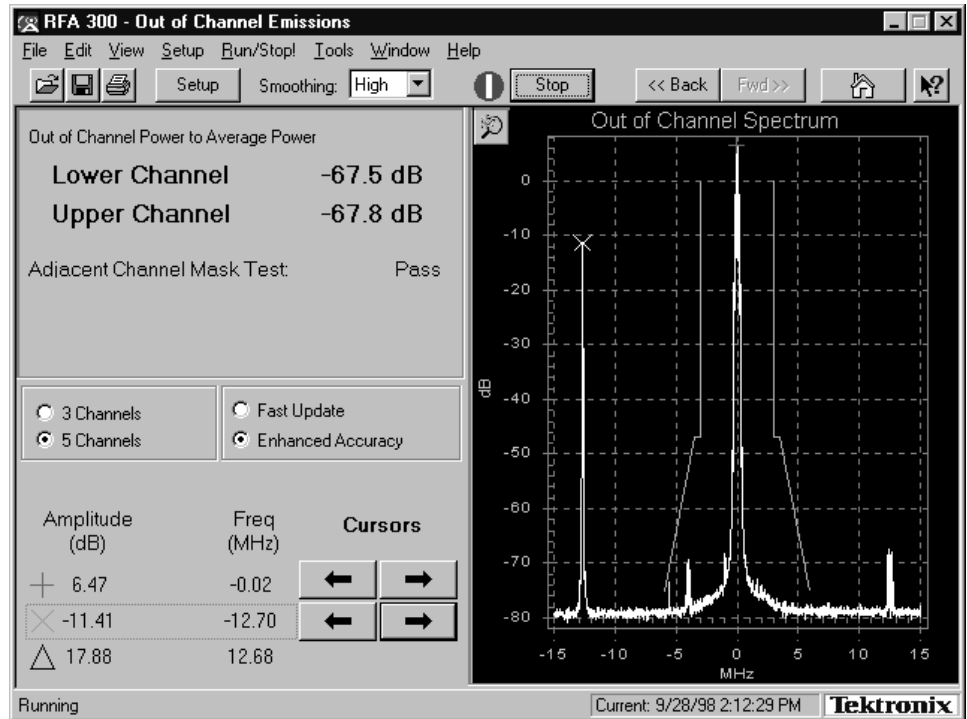

Figure 4–16: Out-of-Channel measurement accuracy test showing initial second tone amplitude
13. Decrease the amplitude of the CW signal in 10 dB steps and check that the amplitude measurement tracks the generator output amplitude for each step as shown in Figure 4–17 (see NOTE below). Record the cursor readings at each step and calculate the difference for each step.